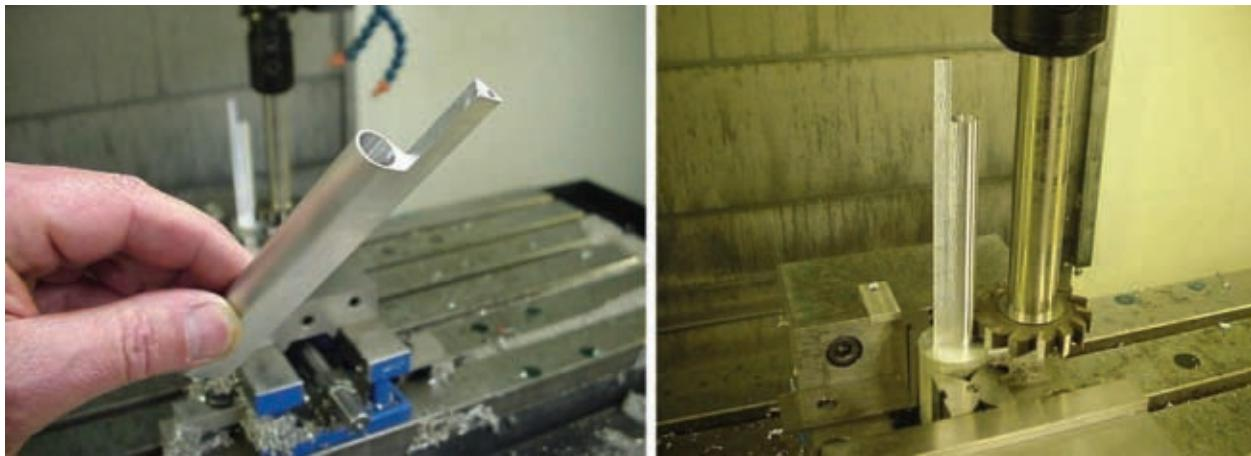

Figure 10-9 Unusual methods of machining sometimes work.
9. Experiment with unorthodox cutting routines once in a while. (see Fig. 10-9)
Unorthodox machining methods don't always work, so be prepared. One day an order came in for about a dozen teardrop-shaped parts shown in figure 10-9. I asked myself, "How in the heck am I going to hold this part for machining?" After going through various planning scenarios, I came up with an unorthodox plan that would do the entire job in one setup. Co-workers thought I was crazy. I thought I was crazy, but the method worked. I chose to stand a bar of aluminum on end, and cut the profile very close to size with a keyway cutter while stepping down the cutter a little at a time. The bar of aluminum provided the rigidity I needed to make the cuts. As you can see, the finish on the parts after machining was not great, but acceptable for final polishing.